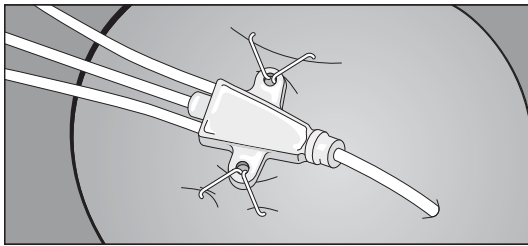

Figure 25
- Firmly squeeze anchoring device together to close staple and secure catheter to skin (refer to Figure 25).